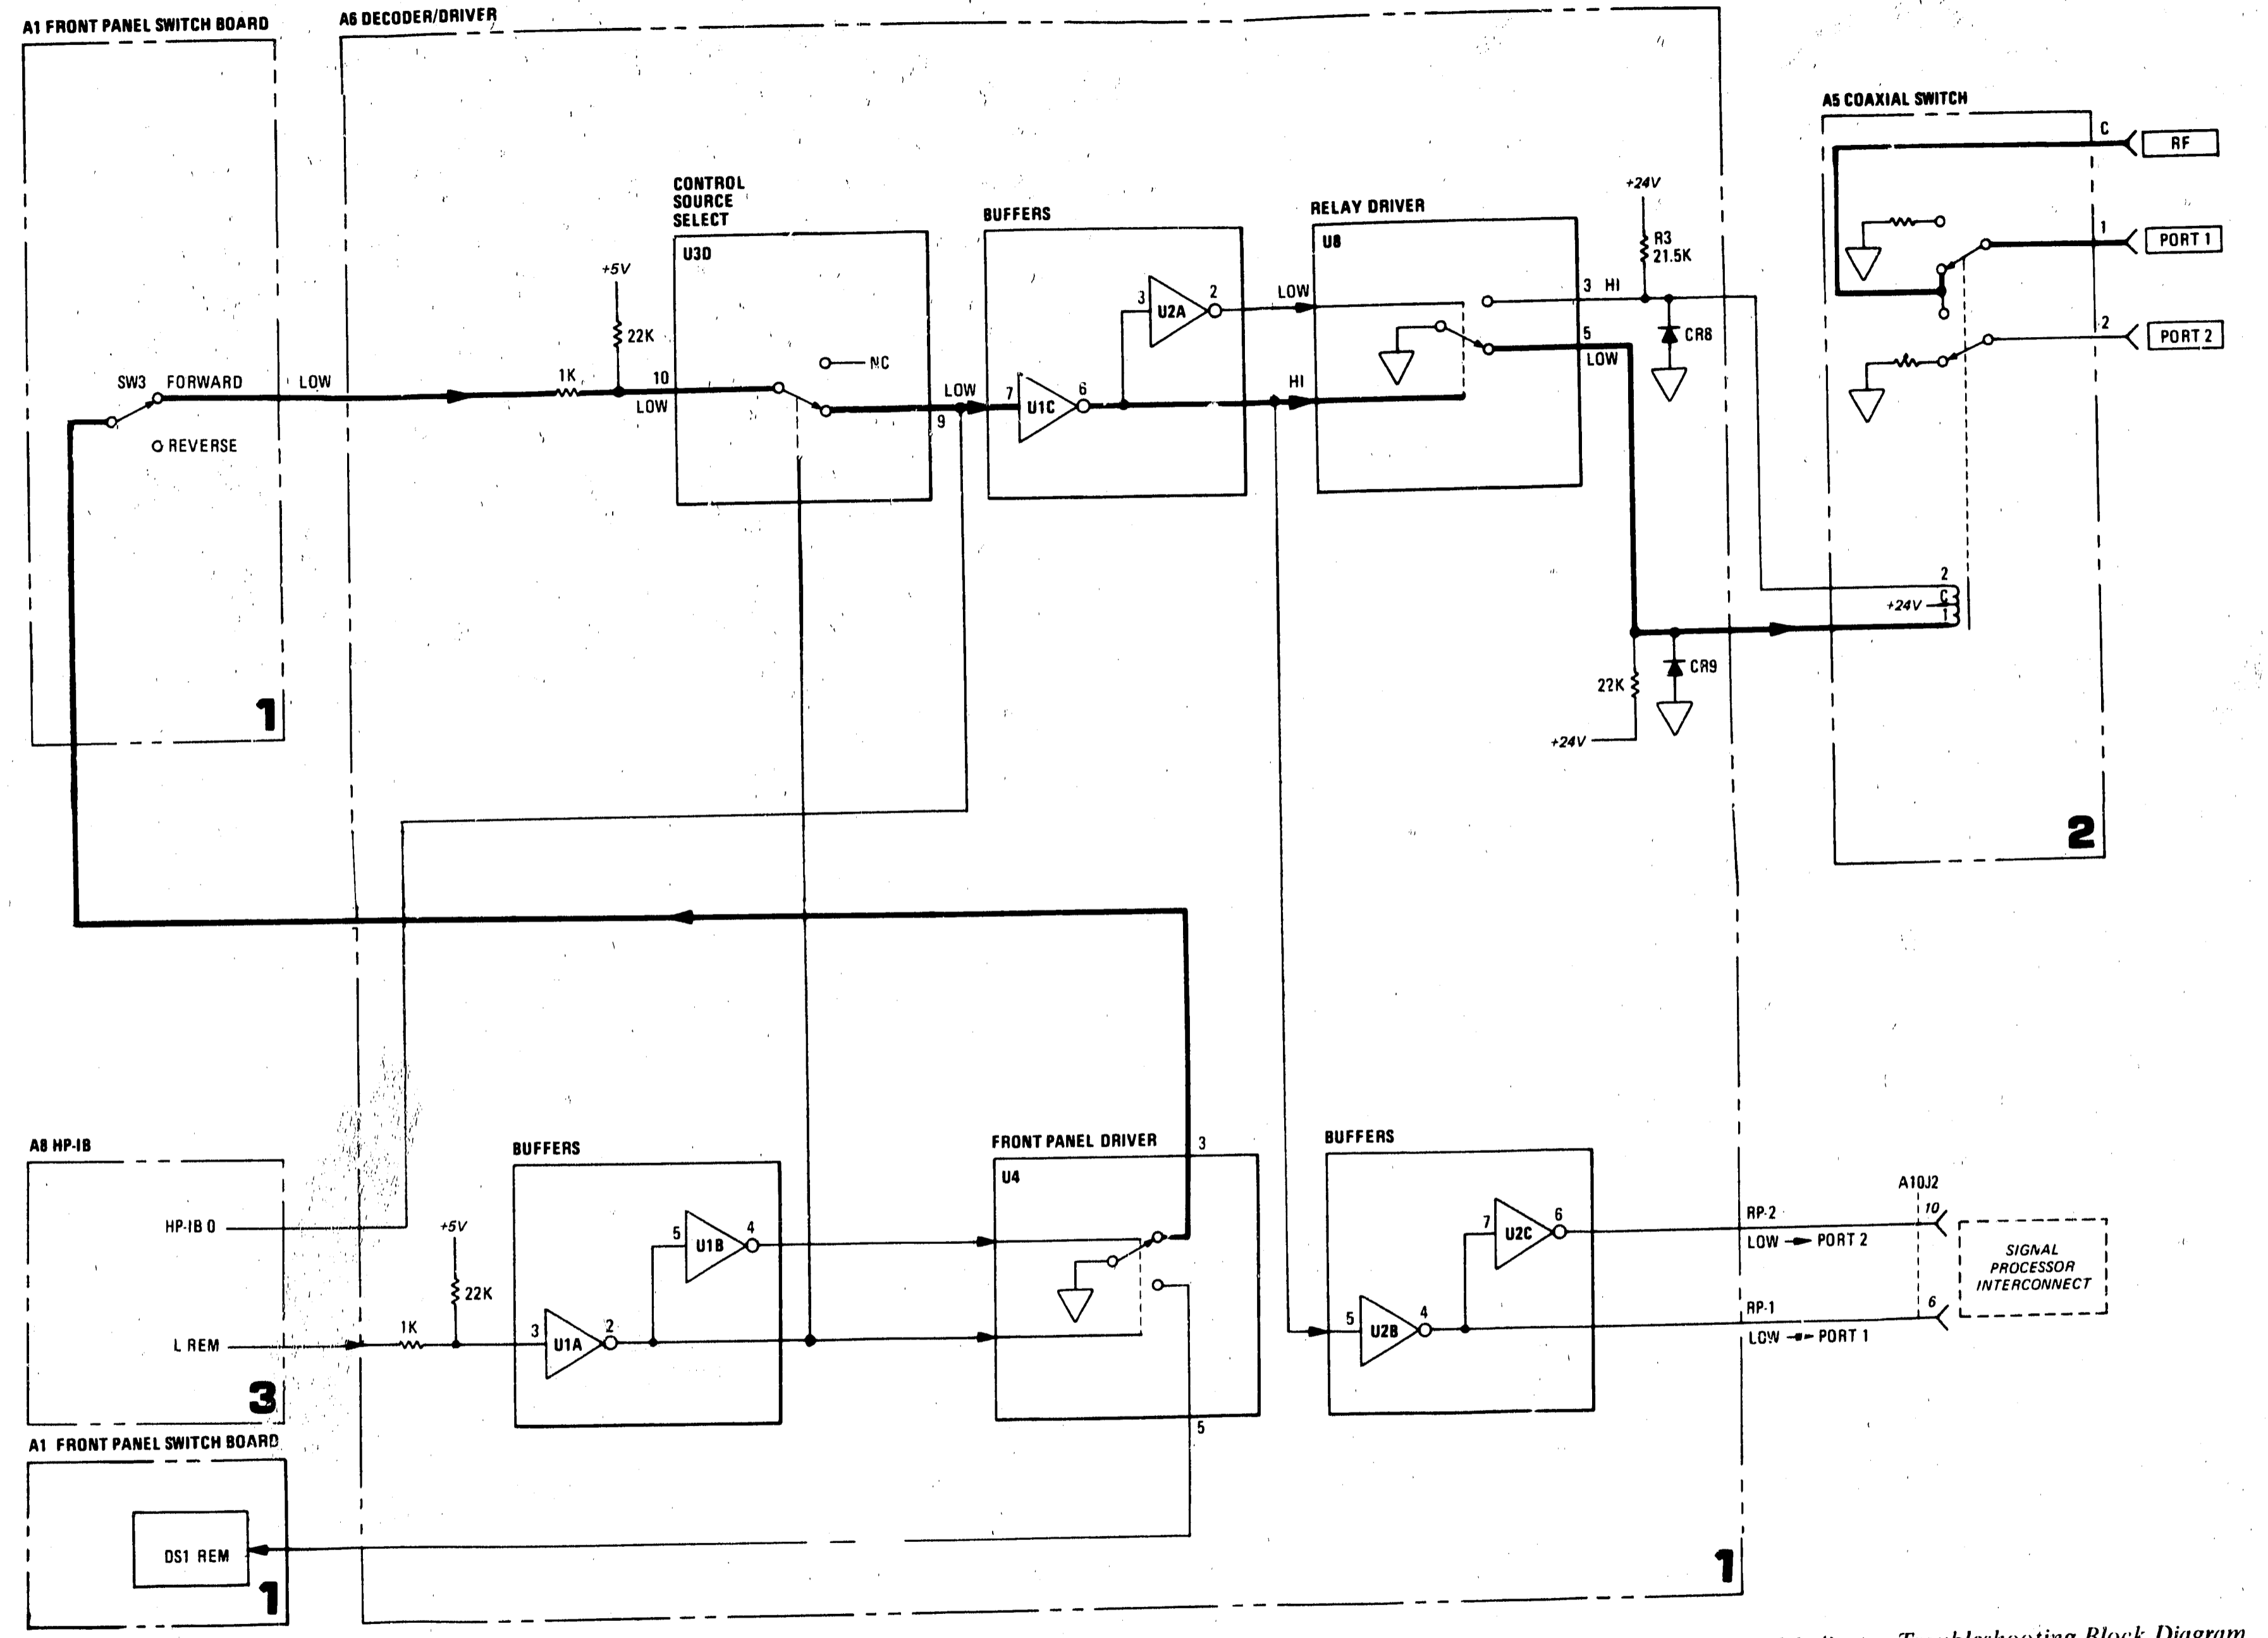

Figure 8-4. Switch Control and Front Panel Indicator Troubleshooting Block Diagram
- b. With 8503A front-panel S-PARAMETER SELECT switch in the FORWARD position and 8503A in LOCAL mode, check for proper indications as shown in Figure 8-4.
- c. Set front-panel S-PARAMETER SELECT Switch to REVERSE and check for proper indications (all LOW's shown in Figure 8-4 should now be HI and all HI's should be LOW).